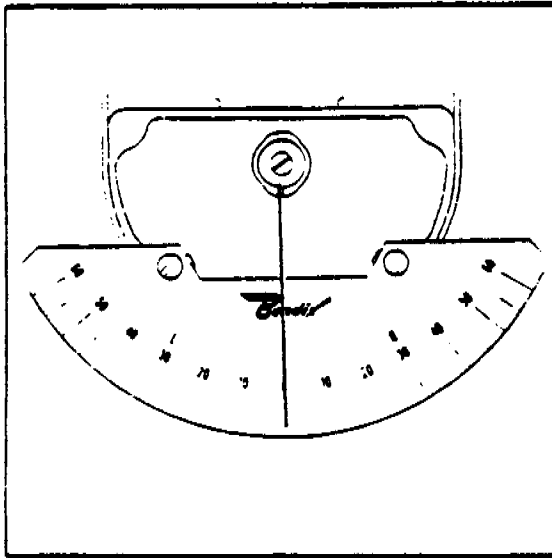
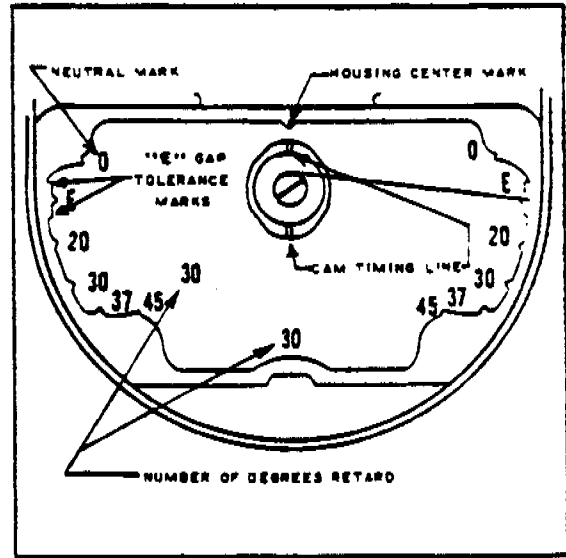

FIGURE 7-13. TIMING PLATE INSTALLED ON BREAKER COMPARTMENT
FIGURE 7-14. BREAKER COMPARTMENT WITH CAST TIMING MARKS
- a. Install timing plate and pointer on magnetos without timing marks cast in the breaker compartment (refer to Figure 7-13) or just the pointer on magnetos with timing marks cast in the breaker compartment. (Refer to Figure 7-14.)